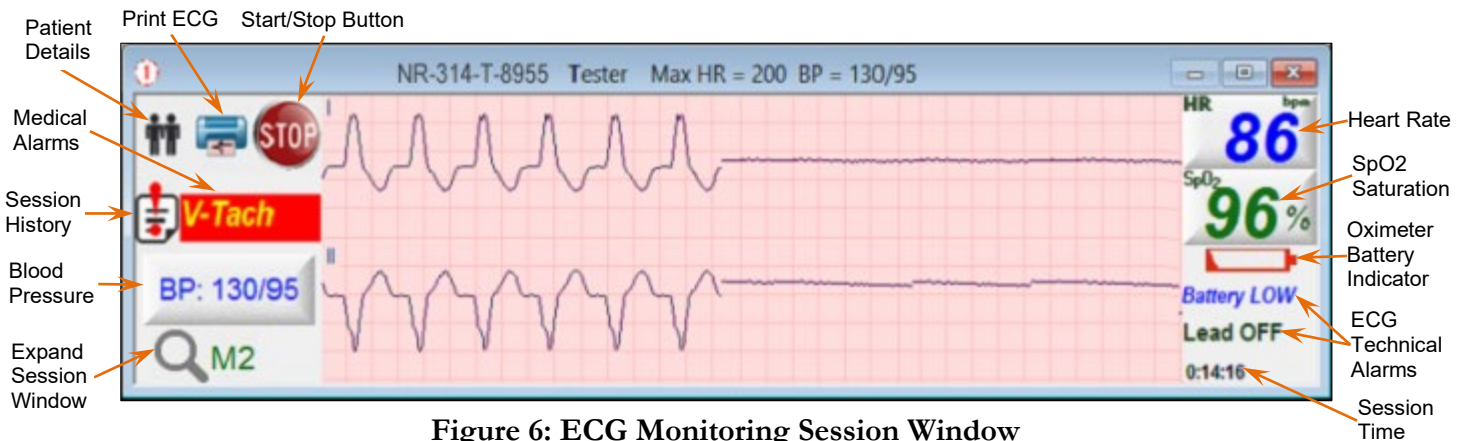

Figure 6: ECG Monitoring Session Window
The following features and options are available during the ECG monitoring session (see Figure 6).
To print the ECG screen, click  on the left panel of the session window (see Figure 6).
1. Click  on the left panel of the session window (see Figure 6).
1. To insert BP systolic and diastolic values, click  and insert the values (see Figure 6).
Click  to open the Session History dialog box, and then insert the values (see Figure 6).
1. To set HR alarm limits, click  on the right of the ECG session (see Figure 6).
1. To set the SpO2 alarm limit, click  on the right of the ECG session (see Figure 6).